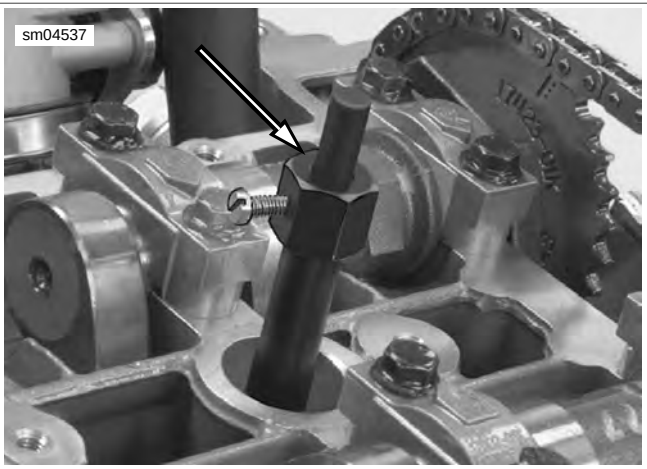

Figure 3-28. Top Dead Center Positioning Tool
1. See Figure 3-28. Install TDC POSITIONING TOOL (Part No. HD-45653) in front spark plug hole. Rotate the front cylinder piston to TDC. Do not allow crankshaft to rotate until assembly is complete.